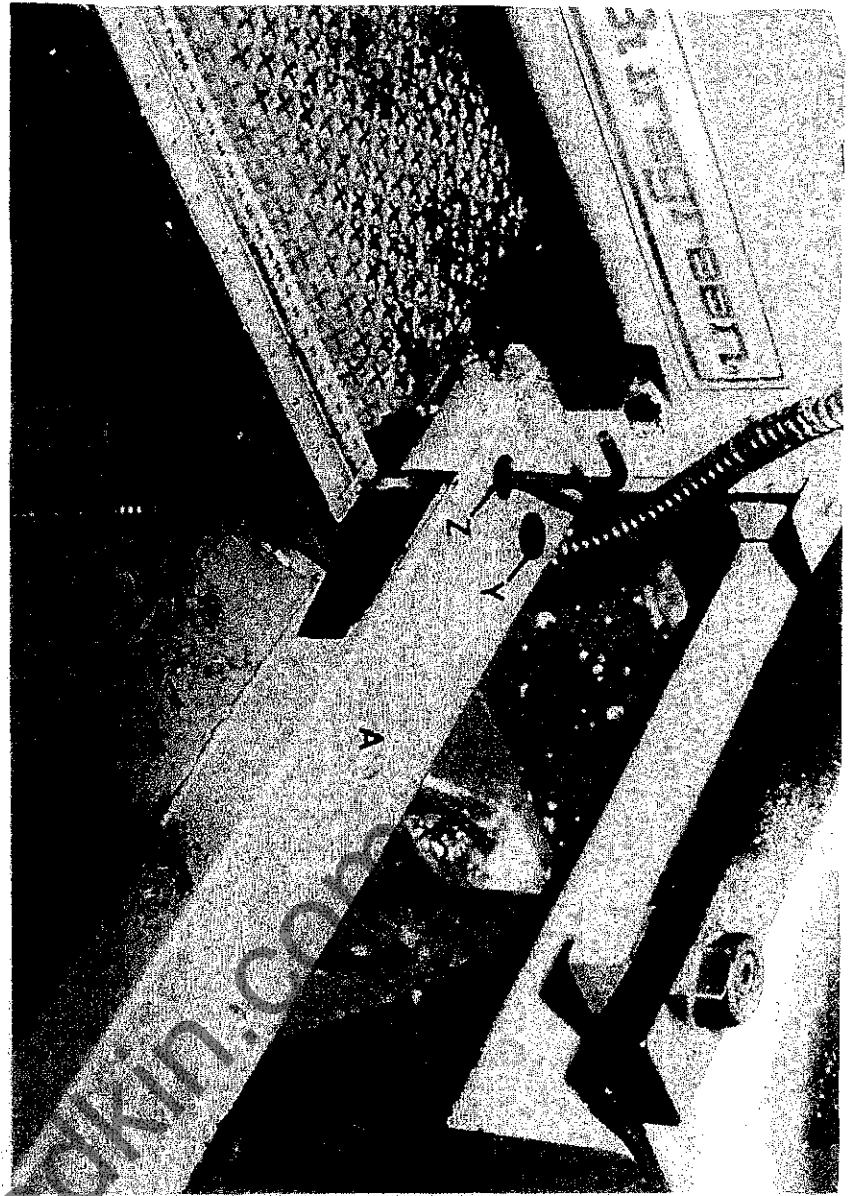

Fig 34
- 6) Remove 2 - plastic plugs "Y" and 2 - M8 cap head screws "Z" FIG.34.
- 7) Remove thicknesing table support "A" complete FIG.34.